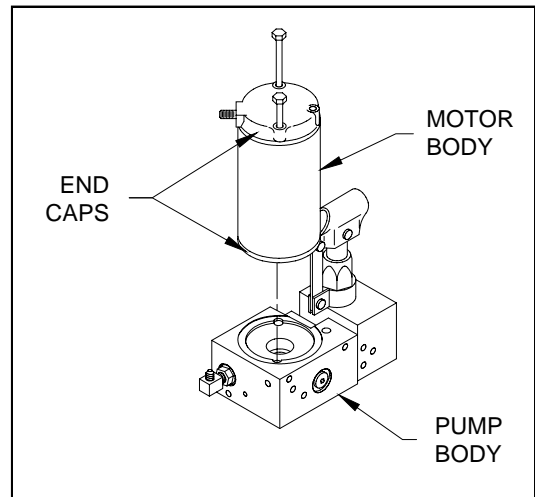

FIGURE 4-23: PUMP MOTOR ORIENTATION
- 3) **Refer to Figure 4-23.** Disconnect heavy electrical connection to pump.
- 2) **Refer to Figure 4-23.** Locate pump motor assembly on pump body (hold motor assembly together).